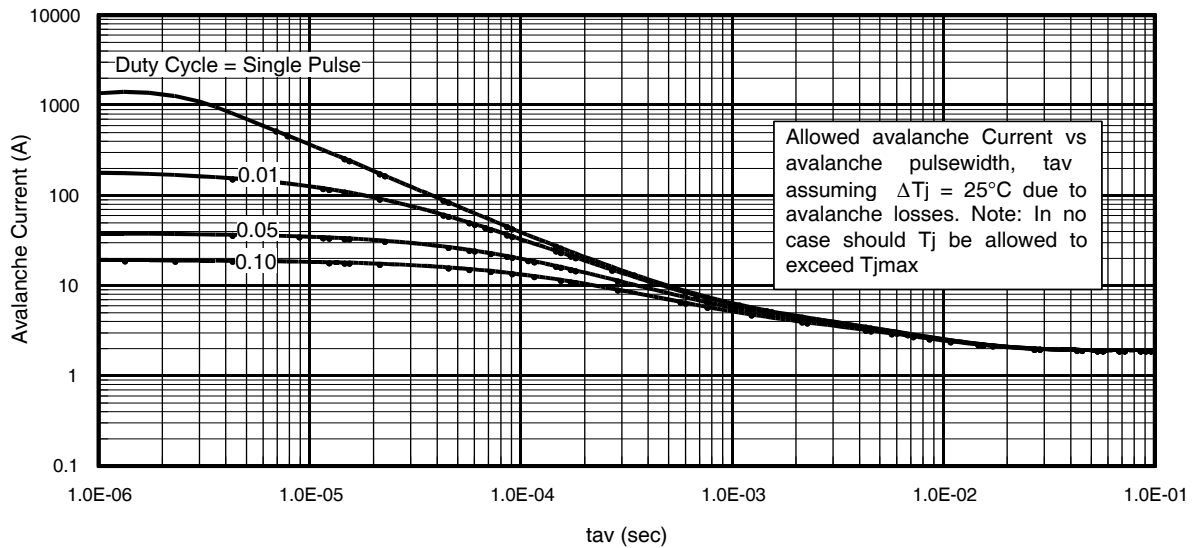

Fig 15. Typical Avalanche Current vs.Pulsedwidth
Notes on Repetitive Avalanche Curves , Figures 15, 16:
7. ΔT = Allowable rise in junction temperature, not to exceed T_{jmax} (assumed as 25°C in Figure 15, 16).